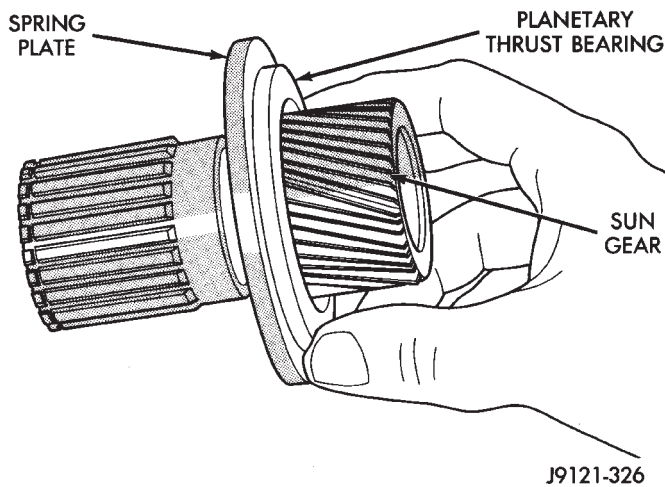

Fig. 228 Planetary Thrust Bearing Installation
(13) Install planetary thrust bearing on sun gear (Fig. 228). Slide bearing onto gear and seat it against spring plate as shown. **Bearing fits one way only. If it does not seat squarely against spring plate, remove and reposition bearing.**